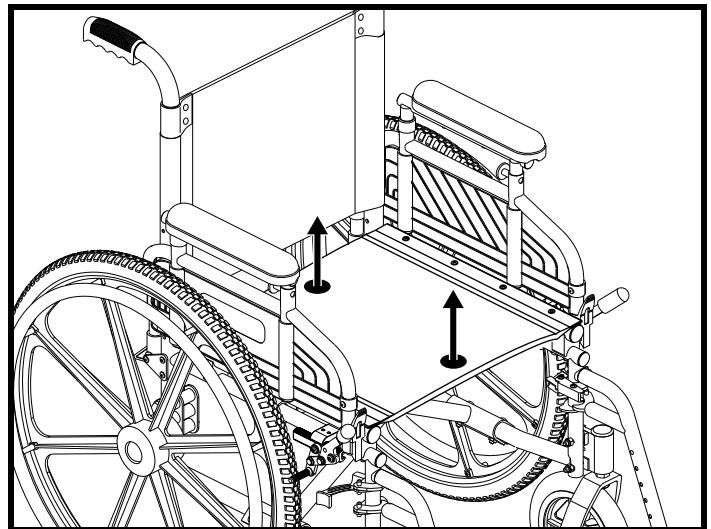

Figure 9. Folding the Stylus
3. Hold the seat base by the center at the front and at the back. See **figure 9**.